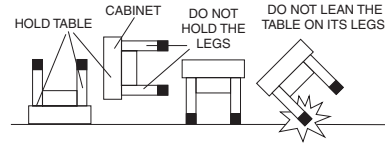

FIG. 4
12) Thread the wires coming off the Overhead Scorer (#30) through the edge of the Overhead Scorer Support - A (#31). See Fig. 4.